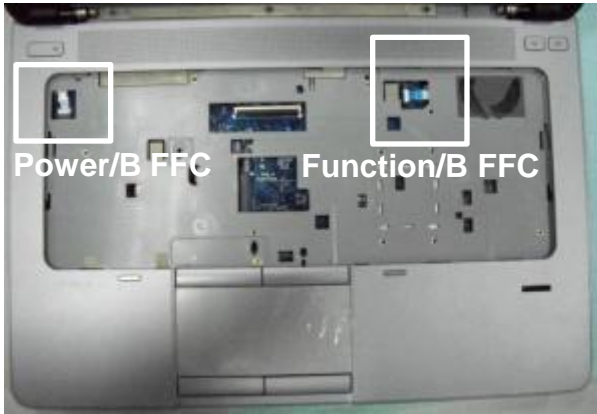

Fig.1
1. disassembly power/B FFC and function/B FFC. (Fig.1 / Fig.2 / Fig.3)